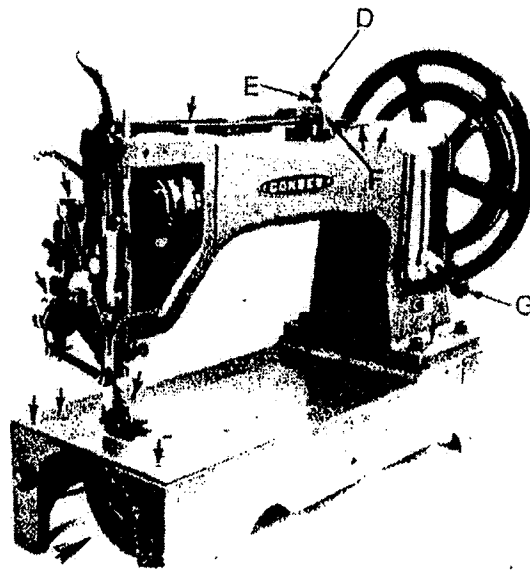

Fig. 10      Oiling Points at front of Machine
a. Oiling points are shown in figures 10 and 11.
The length of stitch is regulated by loosening the serrated nut on the reverse lever G Fig. 10 in the slot on the front of the upright part of the arm. To lengthen the stitch, move the lever downward. To shorten the stitch, move the lever upward and then tighten the nut.
The pressure on the material is regulated by means of the hexagon head screw D, Fig. 10. Loosen the hexagon lock nut, E, F g. 10 and turn the screw 1) to the right to increase the pressure or to the left to decrease the pressure. When the desired pressure has been obtained, hold the screw D with a wrench to keep it from turning while the lock nut (E) is being tightened against the bracket (F).
To insure easy running and prevent unnecessary wear of the machine, oil all parts which are in movable contact. When the machine is in continuous use, oil should be applied frequently. The places where the machine should be oiled are indicated in Figs. 10 and 11 by arrows pointing to the oil holes and bearings. **Important Note:** The oil holes on the machine are indicated by a red circle around the oil hole. Oil should be regularly applied to the shuttle race.